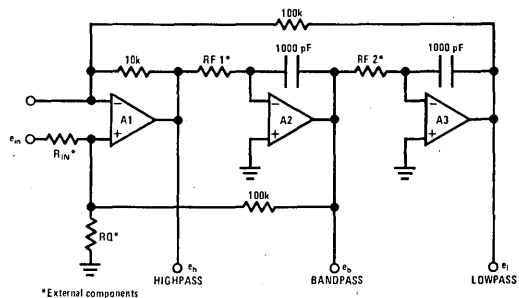

FIGURE 2. Non-inverting Input ($Q > Q_{MIN}$, See Q Tuning Section)
The specific transfer functions for some of the most useful circuit configurations using the AF100 are illustrated in *Figures 2 through 8*. Also included are the gain equations for each transfer function in the frequency band of interest, the Q equation, center frequency equation and the Q determining resistor equation.
a) Non-inverting input (Figure 2) transfer equations are: